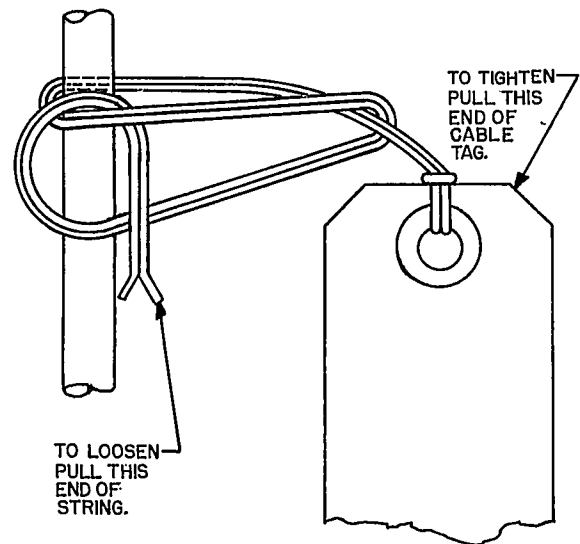

FIG. 1 SD4-218 CABLE TAG AND METHOD OF TYING (PAR. 2.51)
2.51 Wires are tagged for identification purposes as they are run in. The tags are placed at both ends far enough from the ends of the wire so that they do not have to be moved when the wire is skinned. The SD4-218 cable tag and the method of tying it to the wire is illustrated in Figure 1.